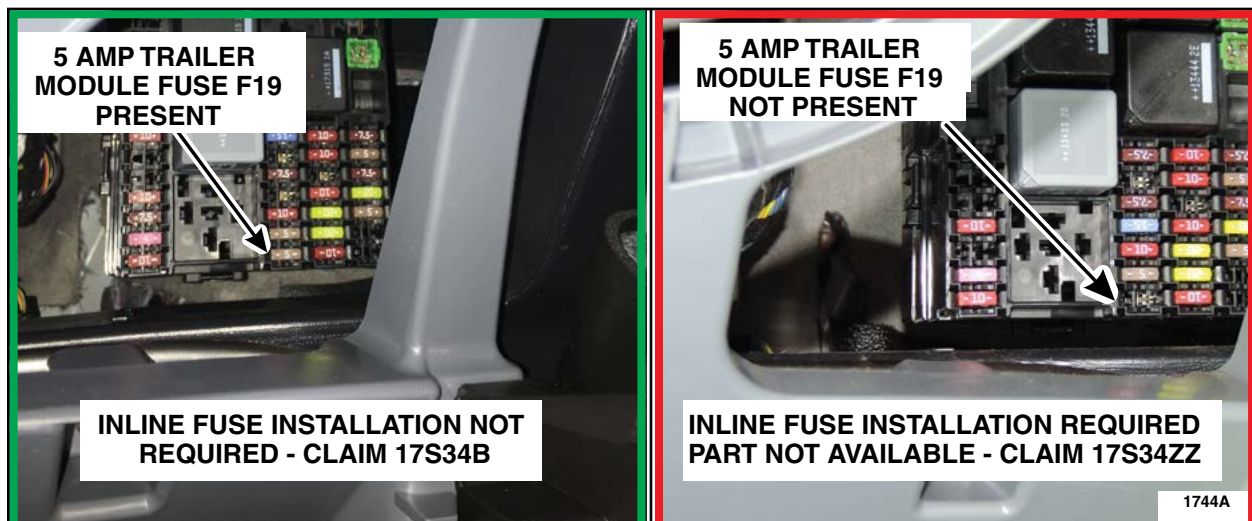

FIGURE 7
3. Inspect for the presence of a 5 amp fuse in the auxiliary junction box at the specified location. Is a 5 amp fuse present in position F19? See Figure 7.